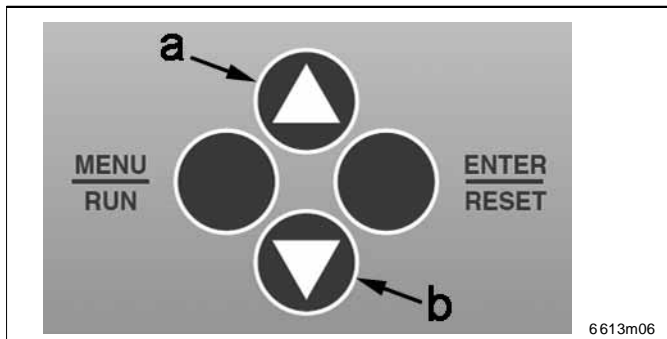

Fig. 27 Operating panel
As soon as you press the “UP“ key (pos. a, Fig. 27) outside of the configuration mode, the actual rest of the expired pause time (Fig. D) or lubricating time (Fig. E) is shown in the display.
- In the case of a field bus connection, set the system-related address code 0001 to 0255 by means of the UP and DOWN keys (see Fig. 27).
- Complete your selection with the ENTER key (Fig. 27).
The version number setting (0 - 1) is shown in the LMC2 display and is made using the UP & DOWN keys on the operating panel (see pos. a & b, Fig. 27).
- Complete your selection (0 - 1) with the ENTER key (Fig. 27).